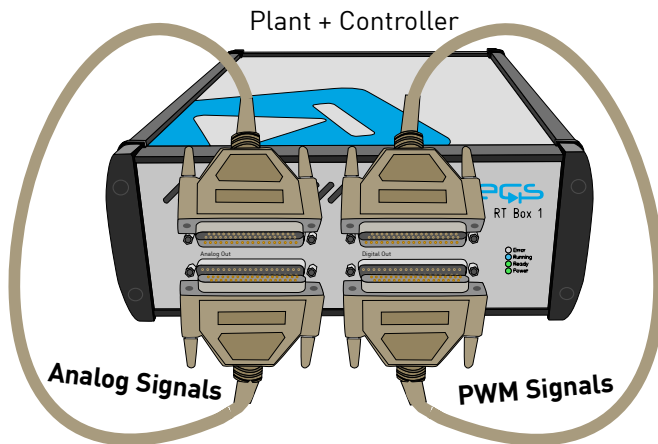

Figure 4: Hardware configuration for the real-time operation on a single RT Box
This model can run both, in offline mode on a computer or in real-time mode on the PLECS RT Box. For the real-time operation, one RT Box (referred to as “Plant + Controller”) needs to be set up as demonstrated in Fig. 4.
- 1 Connect the Analog Out interface to the Analog In interface with one DB37 cable, and the Digital Out interface to the Digital In interface with another DB37 cable (as shown in Fig. 4).